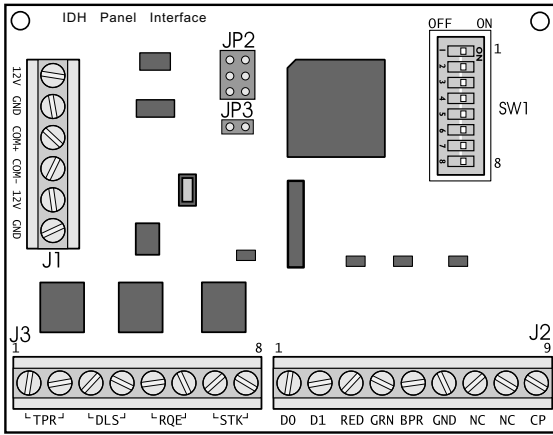

Figure 21a Panel interface circuit board
- Note:** JP2 and JP3, shown in Figure 21a, are used for manufacturing purposes only.